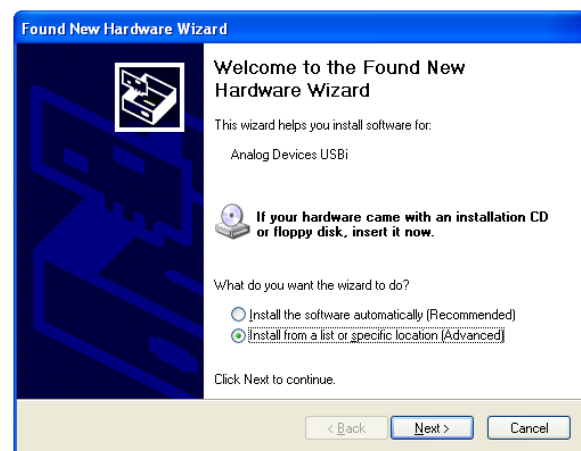

Figure 3. **Found New Hardware Wizard** Installation
1. From the **Found New Hardware Wizard** window, select the installation from a list or from a specific location using the advanced option, and click **Next** (see Figure 3).